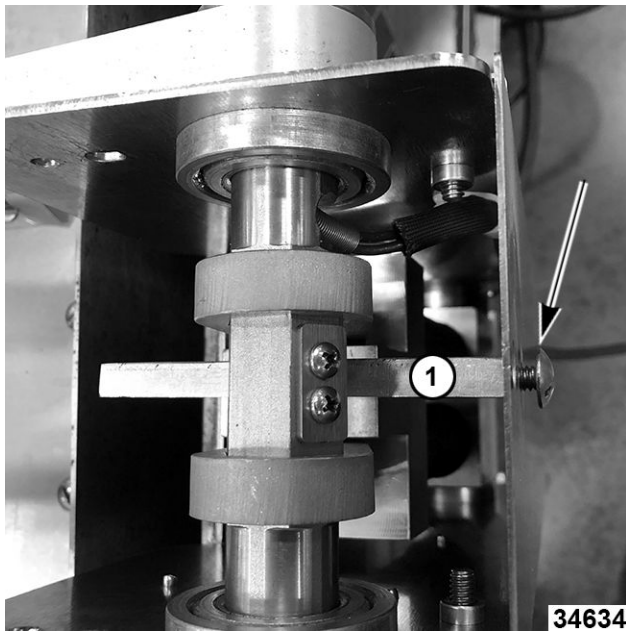

Fig. 21
- Secure bracket by threading one mounting screw back into bracket (1, Fig. 21) through rear of cover.
**TOP VIEW SHOWN IN Fig. 21**